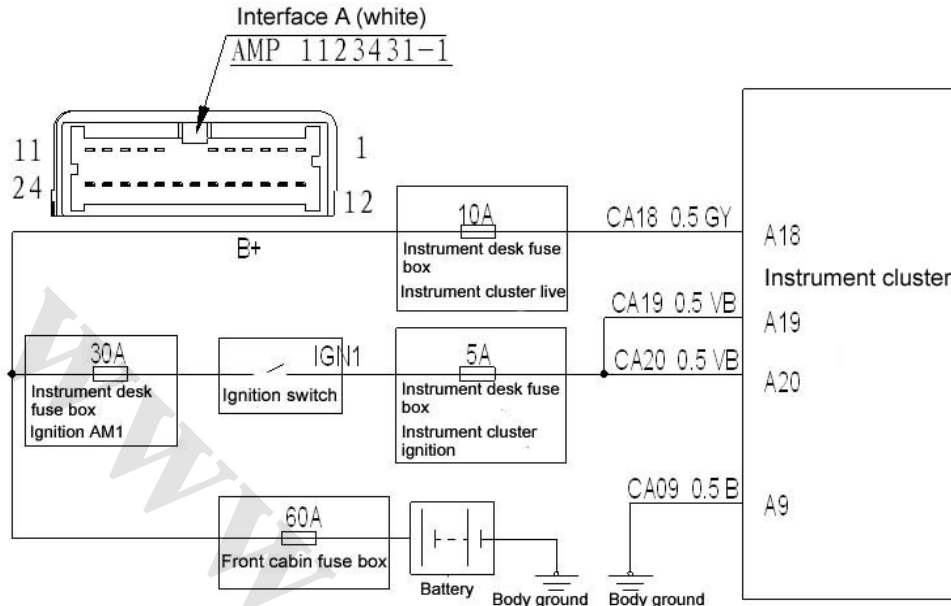

Fig. 4-20
① Remove the instrument cluster, ignition switch on-position, check the voltage between connector terminals A18, A19 and A20 of instrument cluster and the body, normally around 10~14V.
② Check the resistance between connector terminal A9 and the body, normally less than 1Ω. If it is in a normal condition, replace the instrument cluster, if not, repair or change the wire and connector.
(2) Check the circuit as shown in Fig. 4-20.
2) Check the ground end of speed sensor as shown in Fig. 4-20.